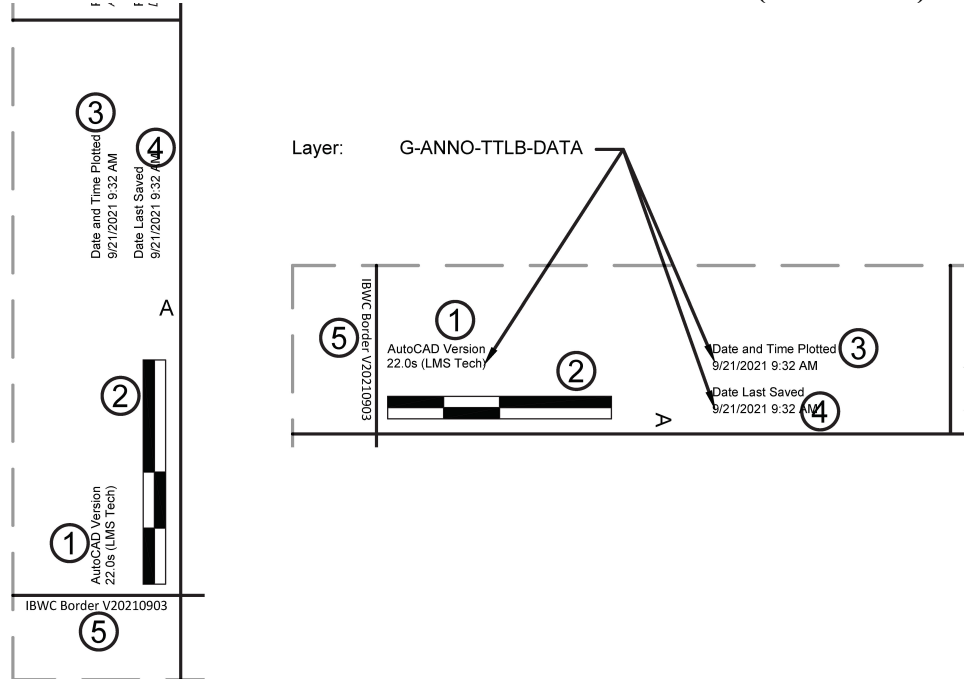

Figure 33-USIBWC Border: AutoCAD Version
4.11. DATE/TIME PLOTTED AND AUTOCAD VERSION (FIGURE 33)
4.11.A. Figure 33, Item 1 - AutoCAD Version
4.11.B. Figure 33, Item 2 - Scale
4.11.C. Figure 33, Item 3 - Date and Time Plotted
4.11.D. Figure 33, Item 4 - Date Last Saved
4.11.E. Figure 33, Item 5 - Border Version